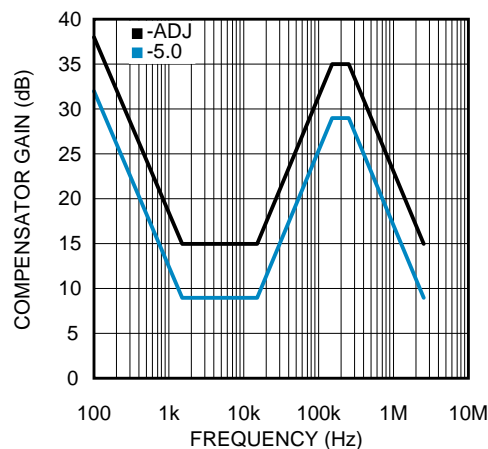

Figure 11. Compensator Gain
The complete transfer function for the regulator loop is found by combining the compensation and power stage transfer functions. The LM22678 has internal type III loop compensation, as detailed in Figure 11. This is the approximate "straight line" function from the FB pin to the input of the PWM modulator. The power stage transfer function consists of a dc gain and a second order pole created by the inductor and output capacitor(s). Due to the input voltage feed forward employed in the LM22678, the power stage dc gain is fixed at 20 dB. The second order pole is characterized by its resonant frequency and its quality factor (Q). For a first pass design, the product of inductance and output capacitance should conform to Equation 3.